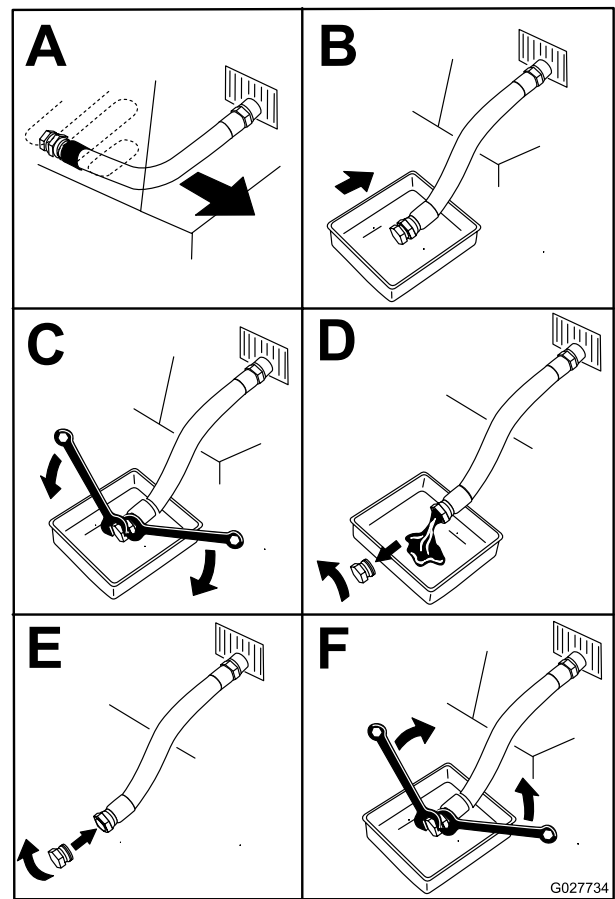

Figure 62
4. Drain the oil from the engine (Figure 62).